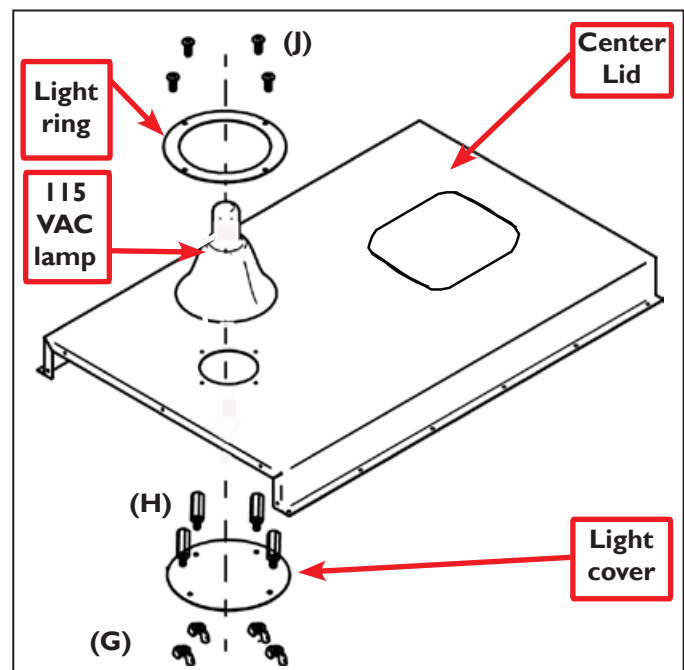

Figure 22
61. Place a 115 VAC Lamp (E.4;Tormach PN 34436) on top of the Center Lid as shown in **Figure 22**.
62. Place the Light Ring (E.5) over the light and fasten into place using (J) screws around perimeter of ring.
63. From inside of the enclosure, thread Hex Standoffs (H) onto protruding portion of exposed screws (see **Figure 22**).
64. Align the Light Cover (E.3;Tormach PN 34435) onto the Hex Stand-offs (H) and secure with Wing Nuts (G).